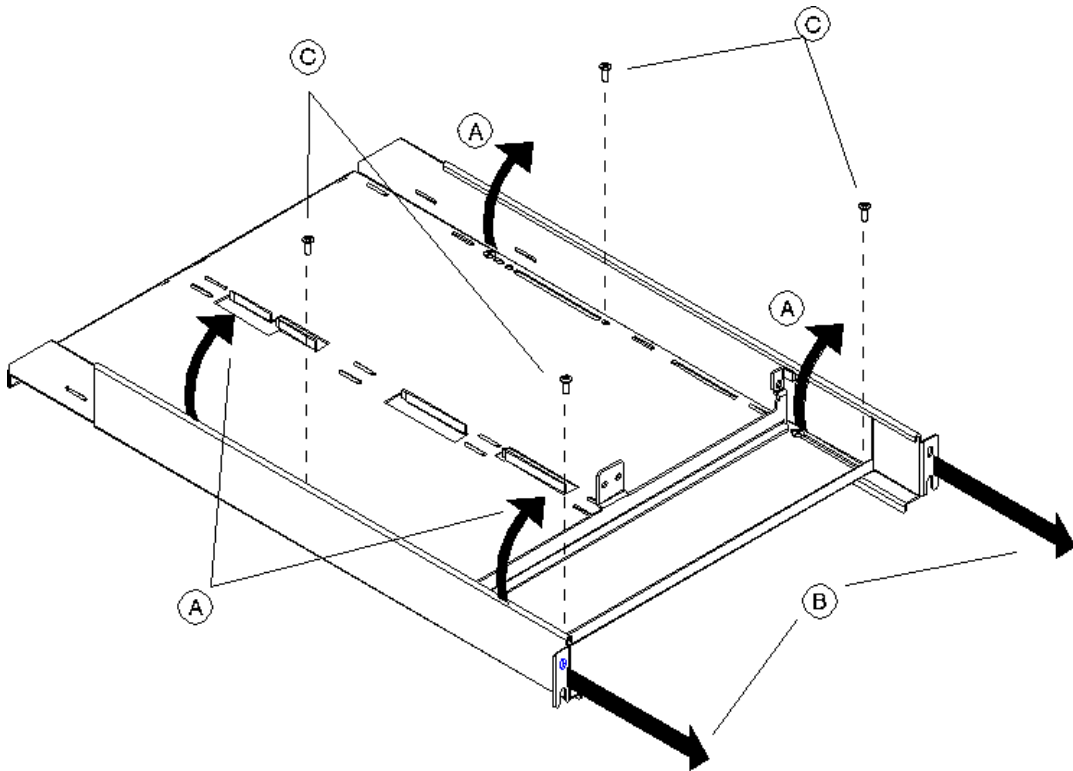

FIGURE 1-4 Customizing the Rack Depth
3. Before installing the shelf, adjust the shelf depth to fit your rack (FIGURE 1-4). To customize the fit:
- b. Slide the side rails back until the front rail hole aligns with the 34-inch depth hole (FIGURE 1-4).
- Do not tighten the screws until you install the shelf (FIGURE 1-4).